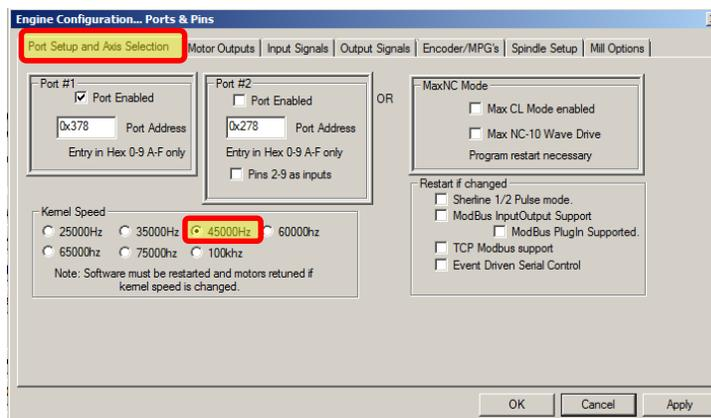

Figure 4-40
- 9) Choose the “Port Setup and Axis Selection” tab. Select “45Khz Kernel Speed” as shown in Figure 4-40. Click the “OK” button to close the popup window.